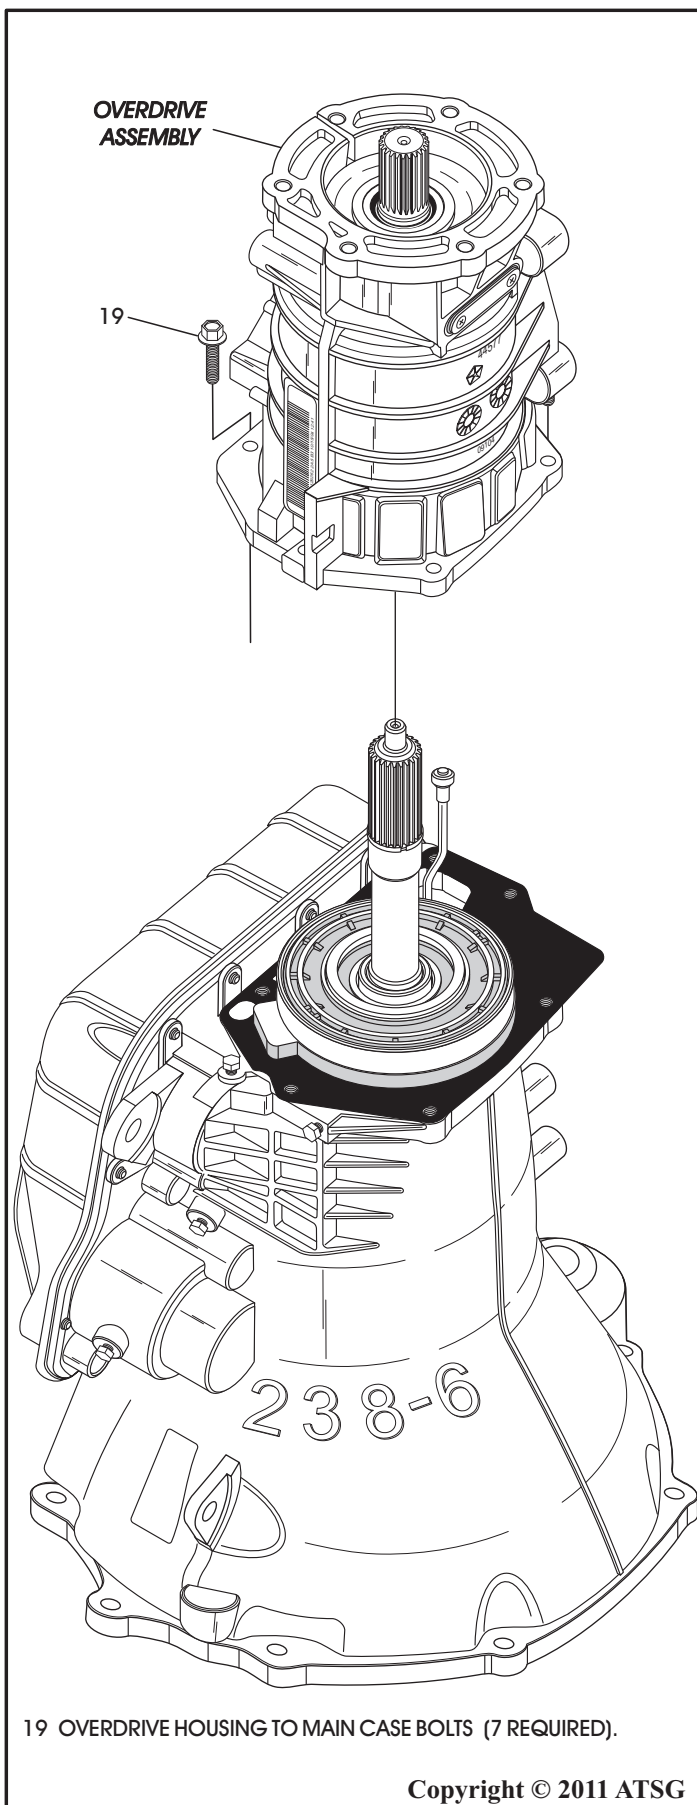

Figure 66
15. Stand the transmission up on the bell housing, as shown in Figure 66.
16. Remove complete overdrive housing by lifting straight up, as shown in Figure 66, and set the overdrive assembly aside for component rebuild.